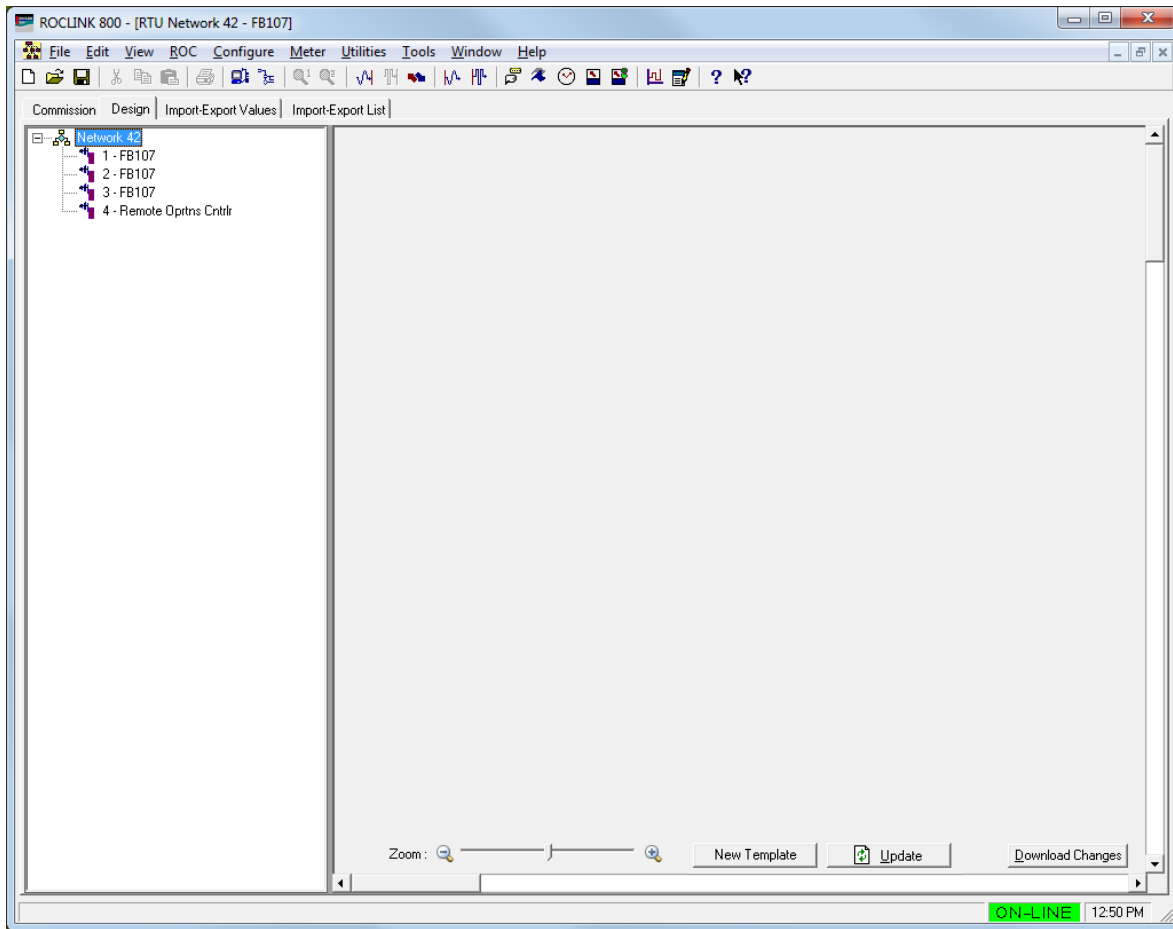

Figure 3-16. Blank Design Workspace
1. Select the **Design** tab to display the design workspace (see *Figure 3-16*).